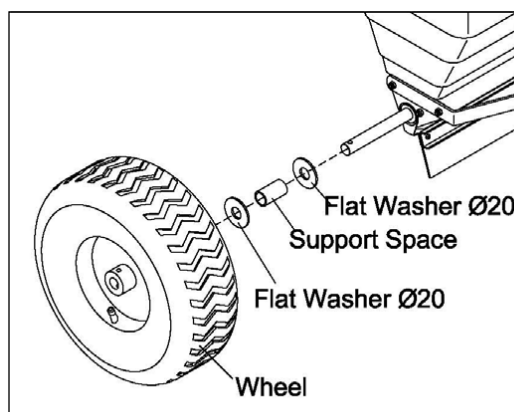
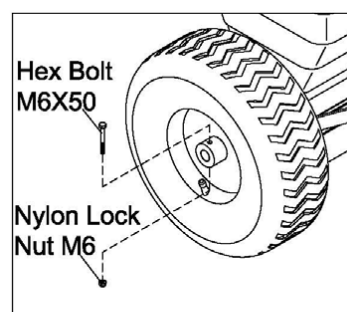

Figure 13
Figure 14
6. On the wheel axle, insert the Flat Washer Ø20, Support Space, Flat Washer Ø20, and Wheel by Sequence. (Note the valve on wheel should be in outside). See Figure 13. Make sure the hole on Wheel Hub and Wheel Axle are in alignment. Secure the wheel by using one Hex Bolt M6x50 and Nylon Lock Nut M6. See Figure 14.